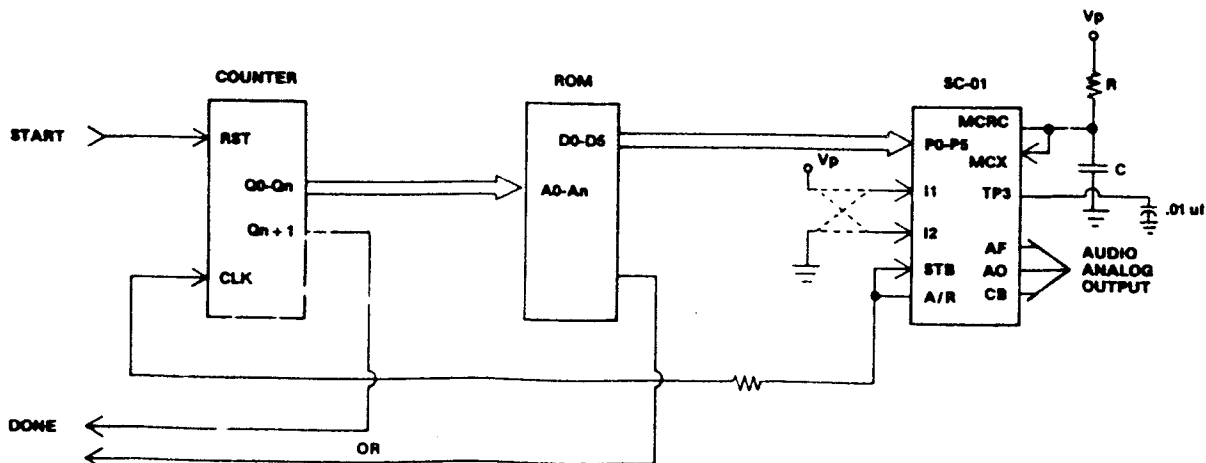

Figure 8. Single Message System
**Single Message System:** See Figure 8. When the counter is released (START is TRUE), the message is clocked out of the ROM by the A/R signal. The system must be stopped when DONE is TRUE. Note: When using A/R tied to STB, connect a .01 uF capacitor to TP3 to insure power up reset of SC-01.